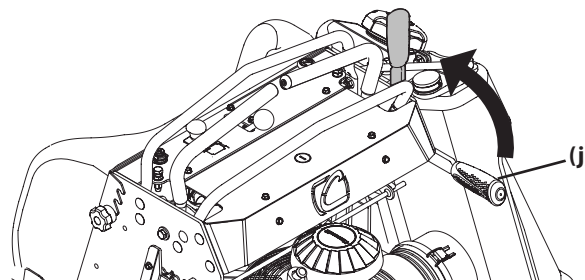

Figure 3
6. To engage the parking brake, pull back completely on the parking brake lever (j). See Figure 3.